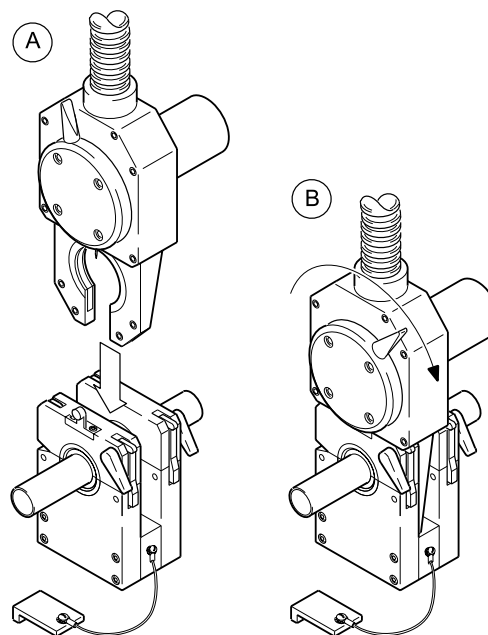

Figure 22 Mating the Weld Head to the Fixture Block
2. Insert the weld head into the fixture block. See Figure 22(A).
3. Rotate the locking lever clockwise to secure the weld head. See Figure 22(B).